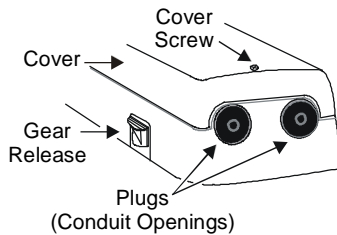

Figure 5: Location of the Conduit Openings
2. Push the plastic conduit plug out of the conduit opening with fingertip. (See Figure 5.)
4. Insert the cable wires through the plastic plug, compression fitting, or conduit fitting, and connect to the terminals using the appropriate wiring diagram in Figure 5.
Note: At this point, the normally closed contact closes, and the normally open contact opens. (See Auxiliary Switches in Figure 5.)